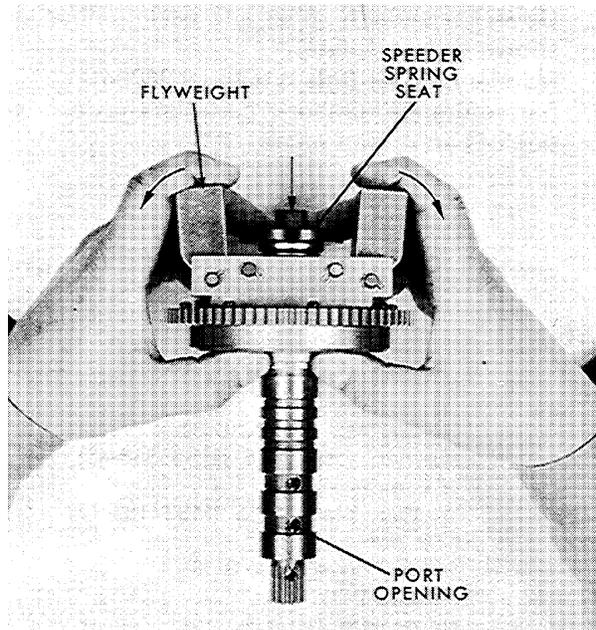

Figure 4-3. Centering Pilot Valve Plunger
5. When assembling the flyweight head pilot valve bushing assembly (238), align the missing tooth in the bushing with the corresponding missing tooth in the spring coupling assembly (229).
6. Install the three-piece thrust bearing (218) onto the stem of the pilot valve plunger (235) (bearing race with the larger hole must be against the flyweight toes).
7. When items 216 through 238 have been assembled, center the pilot valve plunger as follows (see Figure 4-3): apply a slight pressure to the speeder spring seat (217), adjust the pilot valve plunger nut (216) until the flyweights (225) move from their extreme inward to their extreme outward position and there is the same amount of control land showing in the control port at each extreme. The control ports are the bottom holes in the pilot valve bushing.